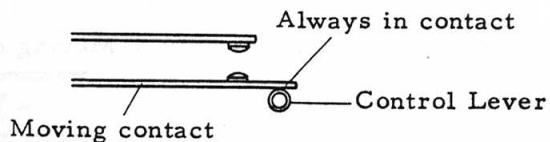

Fig. 13
- 1) All moving contacts for M1 start and stop, and M2 start must always be in contact with the Control Lever stud (Fig. 13)